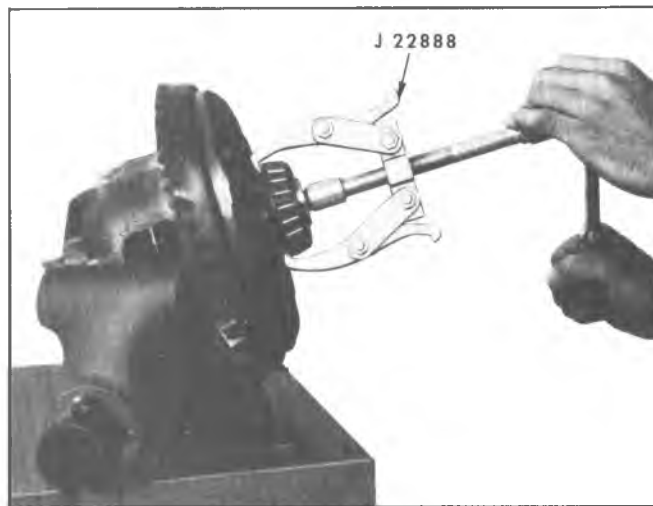

Fig. 3B—Differential Bearing Removal
1. Install Tool J-22888 and Adapter Plug J-8107-4, assuring puller legs are fitted securely in notches in case and against bearing cone, as shown in figure 3B.